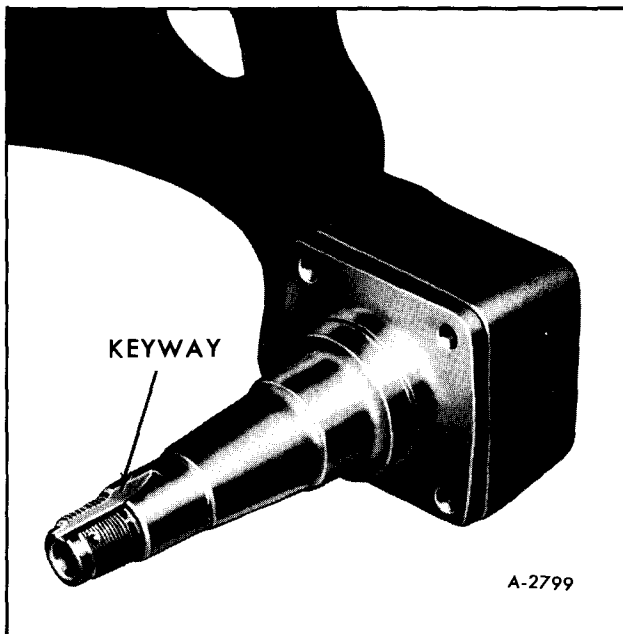

Figure 61—Spindle Installed
6. Install spindle with keyway up as shown in Figure 61 using bolts and nuts to draw spindle into suspension arm.